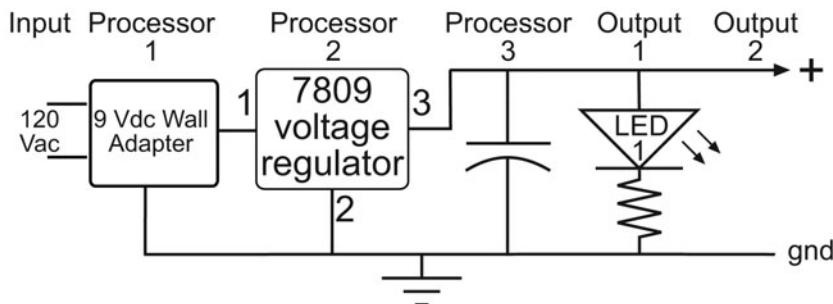

Figure L61-2
- The regulated and buffered power supply is vital. Figure L61-2 reminds us, and Table L61-2 discusses the power supply in detail.